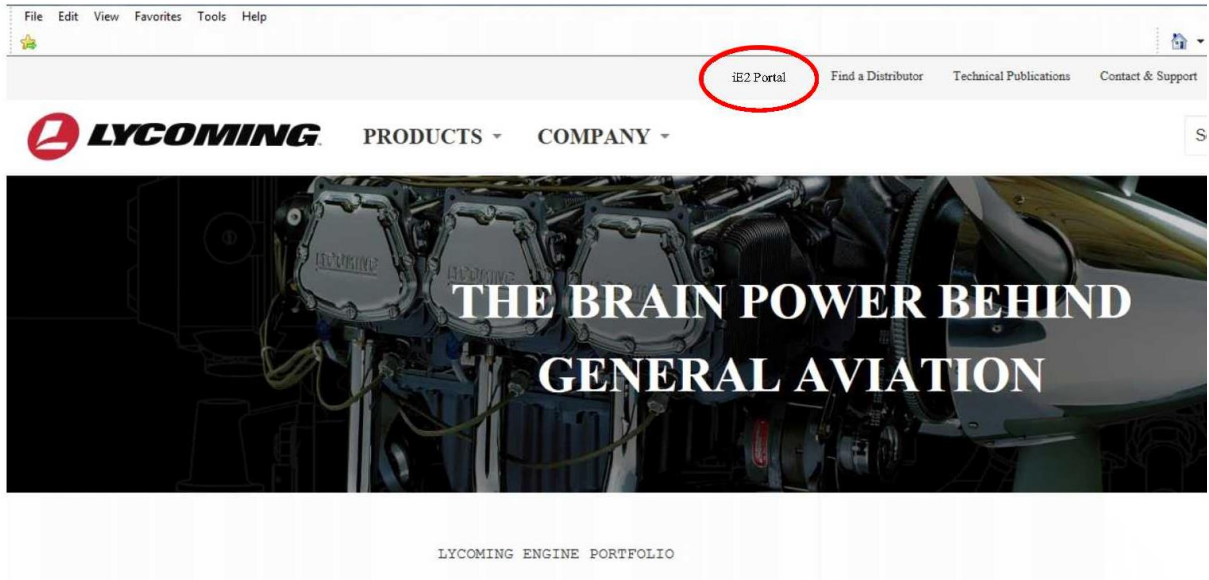

Figure 1
2. Click on the iE2 Portal tab in the ribbon at the top of the page (Figure 1).